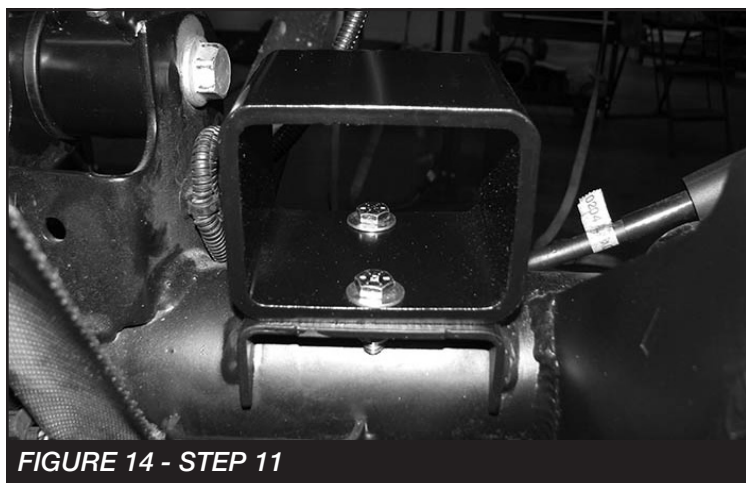

FIGURE 14 - STEP 11
11. Locate and install FT50724 (Rear Bumpstop Spacer) using the supplied 5/16" hardware. Torque to 29 ft-lbs. **SEE FIGURE 14**